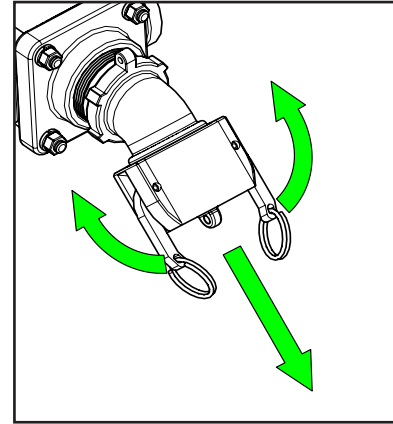

Figure 3 - Liquid Valve Cap
2. Figure 3 - Unlock liquid valve cap and remove.